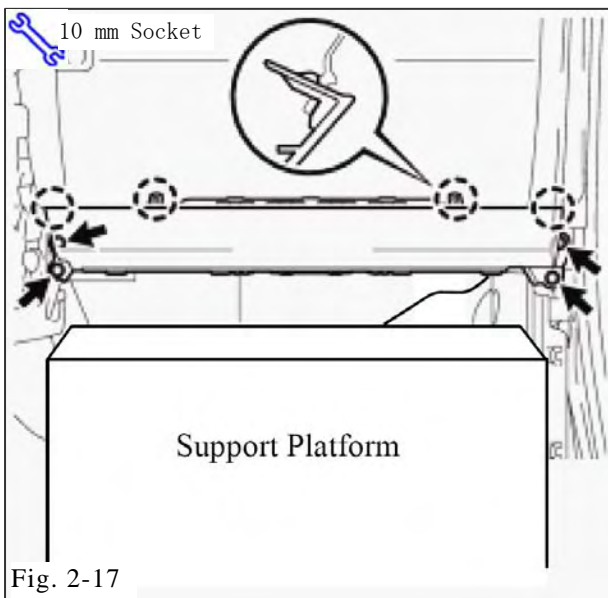

Fig. 2-17
(o) Remove the front passenger side knee airbag assembly. (Fig. 2-17)
- (1) Remove the four (4) bolts.
- (2) Detach the four (4) claws and remove the front passenger side knee airbag.
- (3) Do not disconnect the airbag connector.
- (4) Wrap the front passenger side knee airbag assembly with blanket and place knee airbag assembly on a support platform to avoid stress on wiring. (Fig. 2-17)